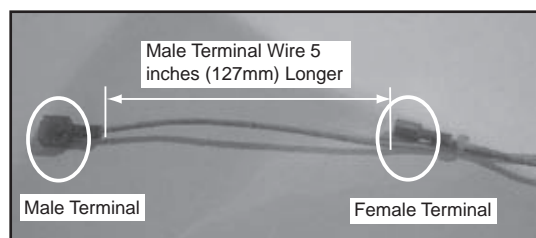

Figure 43.3
6. Re-attach this wire using the small zip ties supplied in roughly the same locations that you removed earlier. Leave the male spade terminal 5 inches (127mm) longer than the female spade terminal that is already attached to the harness. **Figure 43.3.**